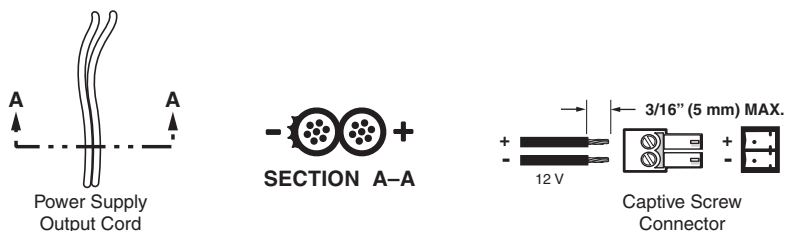

Figure 7 — Power connector wiring
- ⑥ **Power connector** — Plug the external 12 V power supply into this 2-pole captive screw connector. The power supply is included with the unit. Figure 7 shows how to wire the connector.